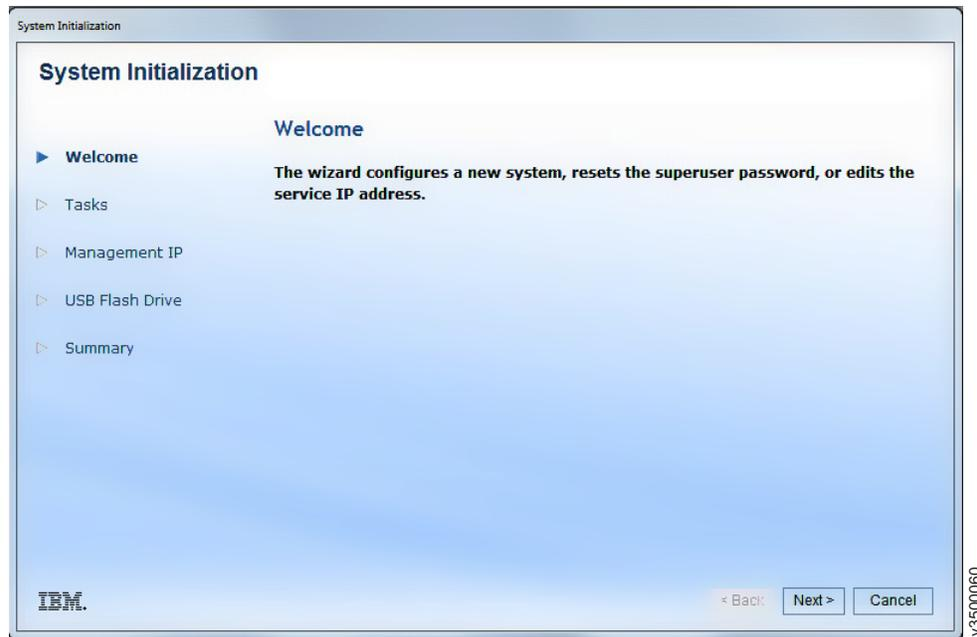

Figure 22. Initialization tool wizard
1. If the initialization tool wizard did not start automatically when you inserted the USB flash drive, open the USB flash drive from My Computer and double-click `InitTool.exe`. The initialization tool wizard starts (Figure 22).